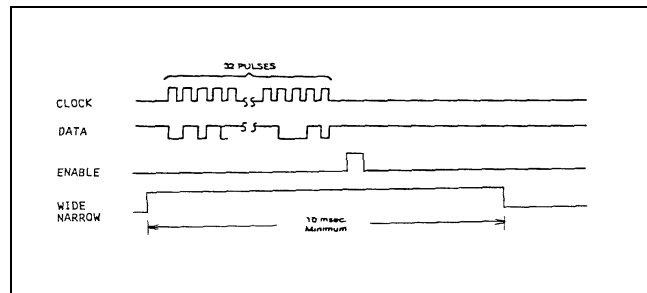

Figure 2 - Clock, Data, Enable, And Wide/Narrow
- g. Verify that the CLOCK, DATA, ENABLE and WIDE/NARROW signals coming from the Control Board are at the proper level and the proper duration (refer to Figure 2).